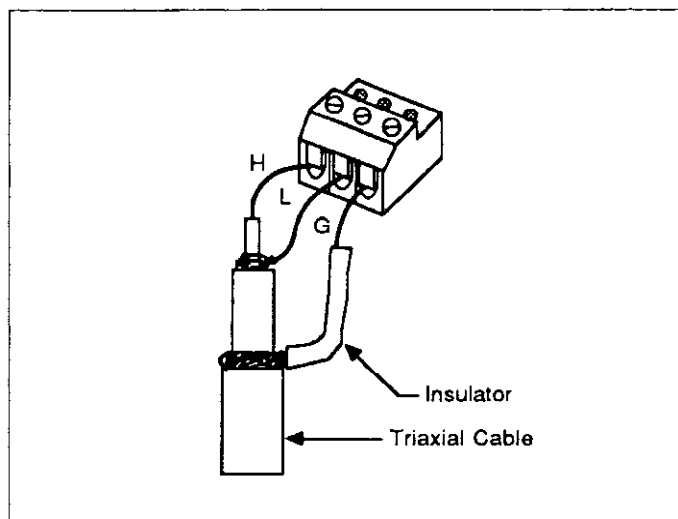

Figure 2-12. Terminal Block Connections
2. Using a screwdriver, connect the circuitry to the terminal blocks. Figure 2-12 shows how a triaxial cable may be connected. The screw terminals accept up to #16 AWG wire.